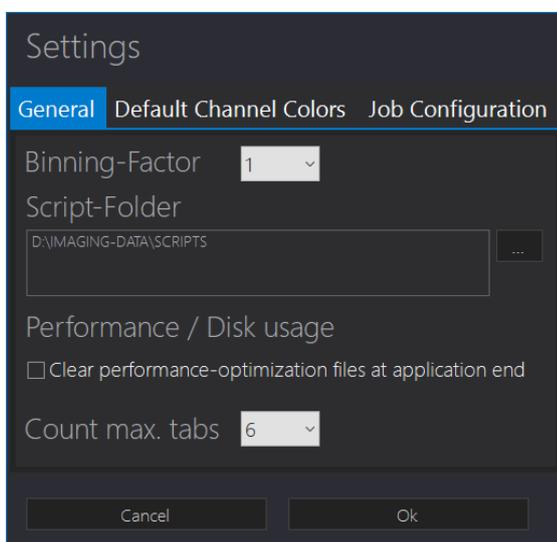

Figure 6 | Plate-Viewer settings menu
- 6) **'Settings'** (via gear symbol): Opens a pop-up window (Figure 6) that allows to configure default performance and visualization settings, as well as plugin/job configurations. Available settings are the default binning factor of displayed images, the default directory containing scripts to be modified (see section 4.6), options how to handle cached temporary data used to improve browsing performance, maximum number of tabs in the thumbnail view (see section 4.3), default LUTs used for different channels and configuration of jobs and plugins (see section 4.7).